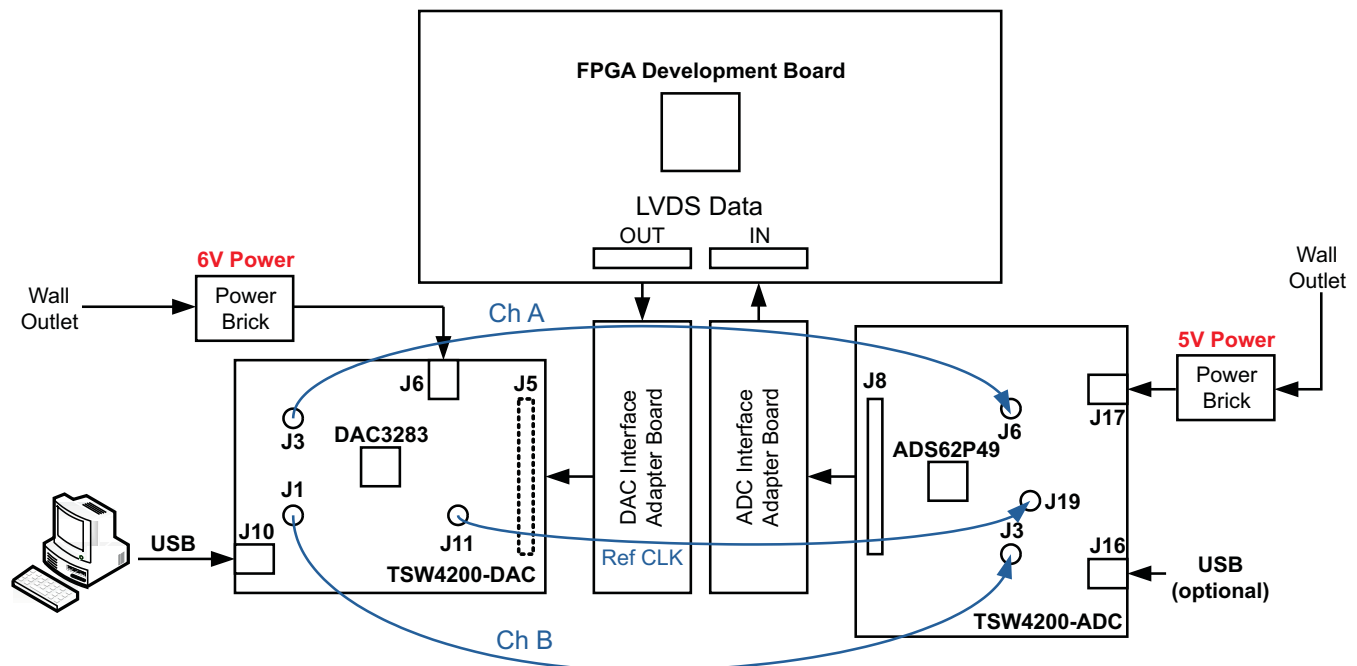

Figure 1. TSW4200 Demonstration Kit
Figure 1 shows the configurations of the TSW4200-DAC and TSW4200-ADC EVM with the FPGA development board. Section 3 covers the setup information of the EVMs.
5. Connect the DAC EVM output at J1 and J3 to the ADC EVM input at J3 and J6. See Figure 1 for detail.